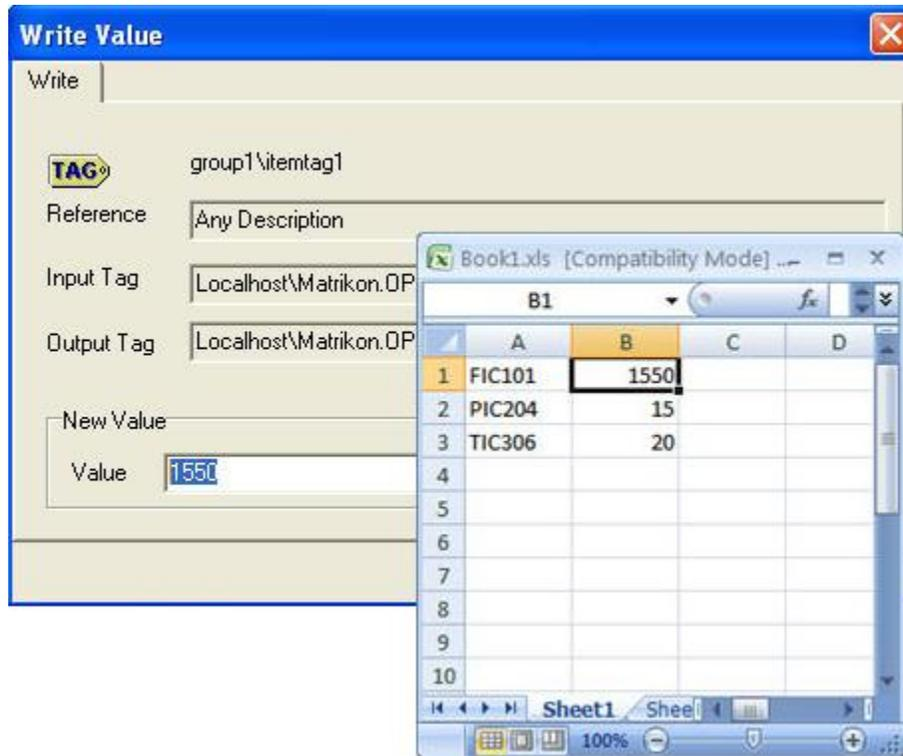

Figure 30 - Verified Value Change in Microsoft Excel
6. Review the **Book1.xls** file to confirm the **FIC101** value has changed (Figure 30).